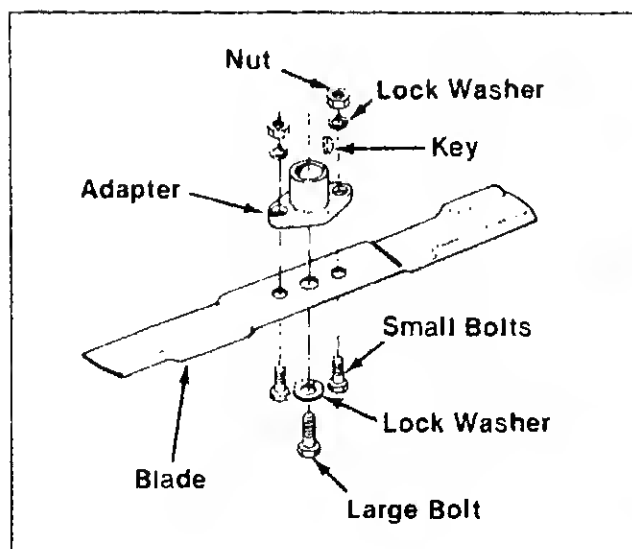

FIGURE 33.
3. Remove the two smaller bolts, lock washers and nuts holding the blade to the adapter. (See figure 33.)